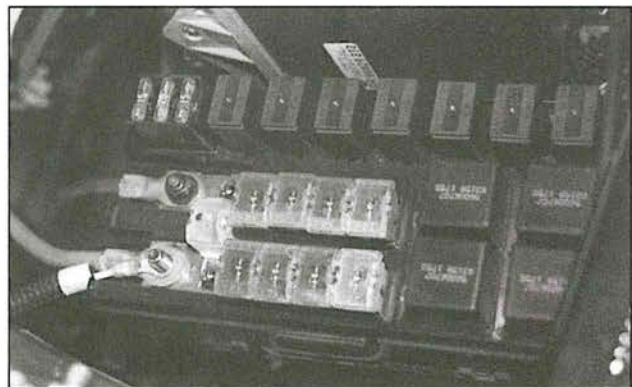

Fig. 23
- c. Mount the ring terminal from the power supply wire over the positive terminal lug (Fig. 23) and reinstall the nut and cover.